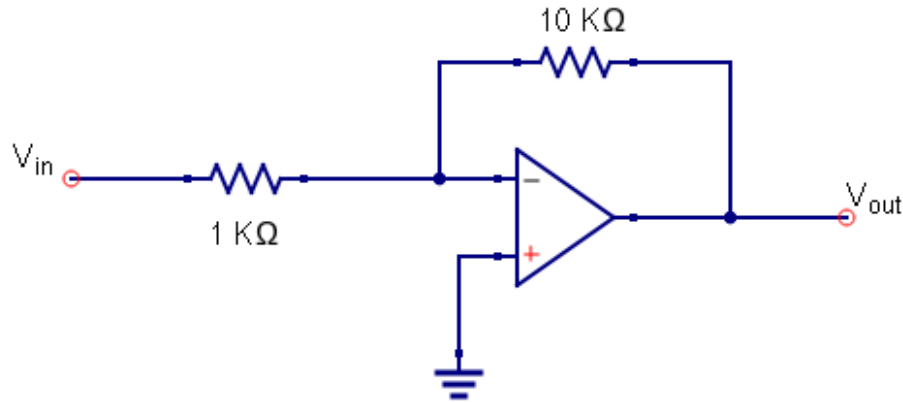

Figure 5: The op-amp inverting amplifier circuit.
- Build the inverting amplifier shown in Figure 5
- Start with the circuit shown in Figure 5 (built for the previous procedure)